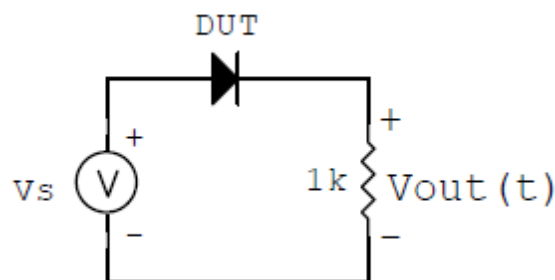
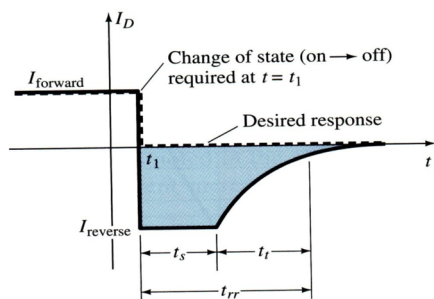

Figure 1. Simple diode-resistor circuit. Voltage drop across the resistor gives a measure of the diode current ($I = V_{out}/R$; $R=1k\Omega$)
Figure 2. Illustration of diode transient response
Intuitive understanding (Theory): Consider the simple circuit shown in Fig. 1. You have analyzed such a circuit for DC source V_s in both forward biased and reverse biased conditions. If V_s is an AC signal on the other hand, the diode will switch from forward bias to reverse bias and so on with every successive half-cycle of the AC signal. The purpose of this handout is to understand what happens when the switching from one bias condition to the other occurs. For e.g. if V_s is a square wave, how will the diode behave at falling and rising edges of the square wave? Once you have understood this, you are qualified to analyze the steady state (DC) and transient (AC) response.
Suppose in Fig. 1 we apply a square wave to the diode of a voltage level large enough (compared to knee voltage) to push the diode into conduction. In forward bias (i.e. positive half cycle of the square wave), the current across the diode is large, and we will measure a large voltage drop across the resistor (same current flows through diode and resistor – the resistor is just used as a ‘probe’). Let us analyze what happens when we switch from positive half cycle to negative half cycle, using Fig. 2.
When the square wave switches from positive half cycle to negative half cycle, you would expect that the current should instantaneously drop down to the reverse saturation current value as shown in dotted line in Fig. 2. However, realize that the current is carried by electrons, and electrons cannot instantaneously disappear or appear when you change the voltage (you would violate all known conservation laws in physics if that happened!)
In reverse bias, the current is on account of minority carrier diffusion. In all the experiments you have performed so far, the concentration of minority carriers in p (N_{p0}) and n regions was dependent on intrinsic carrier concentration (n_i) and the doping density (N_d) ($N_{p0} = n_i^2 / N_d$). However, in case of Fig 2, there is an “extra” concentration of minority carriers at the edge of the depletion region due to injection of minority carriers during positive half cycle ($N_p = N_{p0} e^{qV/kT}$). These extra minority carriers start diffusing into the depletion region giving a much larger (in magnitude) reverse bias current as compared to the reverse saturation current as shown in Fig. 2. The entire time taken for the current to reach reverse saturation current level is called reverse recovery time (t_{rr}).
This reverse recovery time is comprised of 2 components. The first component, stored delay time (t_s) is the time during which current flowing through the diode corresponds to removal of injected carriers from the bulk, and the second component, recombination time (t_r , wrongly labeled as t_t in Fig. 2) is the time during which the minority carriers at depletion region edge diffuse into the depletion region and recombine. For more details, refer to slides 1-6 of handout here: <http://www-inst.eecs.berkeley.edu/~ee130/sp03/lecture/lecture14>. The formula for t_s as derived in that handout is $t_s = \tau_n \ln \left(1 + \frac{I_{forward}}{I_{reverse}} \right)$, where τ_n is minority carrier lifetime for electrons. Thus by measuring t_s , we can measure the carrier lifetime.